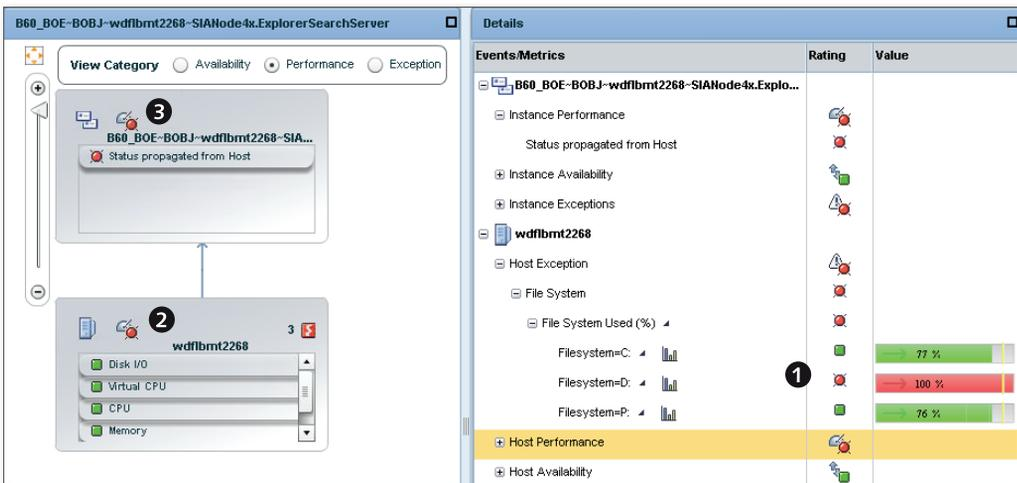

Figure 6.18 System Monitor
You can use the system monitor to monitor individual technical instances and systems. Figure 6.18 shows the system monitor for a server process in an SAP BusinessObjects system. So in just a few clicks, you can navigate from the complete overview for your BI scenario to the technical details of a particular system. The system monitor is divided into two areas. The left-hand side of the system monitor contains an overview in which you can monitor the overall technical status and the individual system hosts, while the right-hand side of the screen displays the details that resulted in the overall status.
The example shown in Figure 6.18 represents a situation in which a host's file system (FILESYSTEM=D:) is completely full (100%) (❶). For this reason, the host `wdf1bmt2268` is assigned a red status (❷). This red status for the host `wdf1bmt2268` is then forwarded to the technical instance (in this case, an SAP BusinessObjects server process). Consequently, a red status (in other words, a critical status) is displayed for the technical instance (❸), which, in turn, forwards this status to the next higher level, the technical system `B60_BOE~BOBJ`. From here, the critical status is passed on to the system layer in the BI OVERVIEW monitor, which is also assigned a red status. This example shows you how BI monitoring and system monitoring are interconnected.